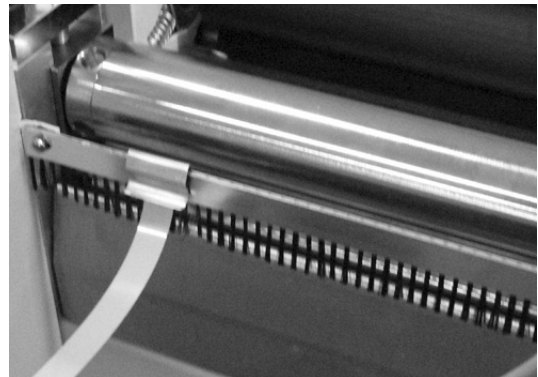

Figure 14
NOTE: Straps should not be placed where they will interfere with the conveyor belts or the weighted out-feed tires, (see Figure 14).
4. Figure 14 shows strap and clip in place.